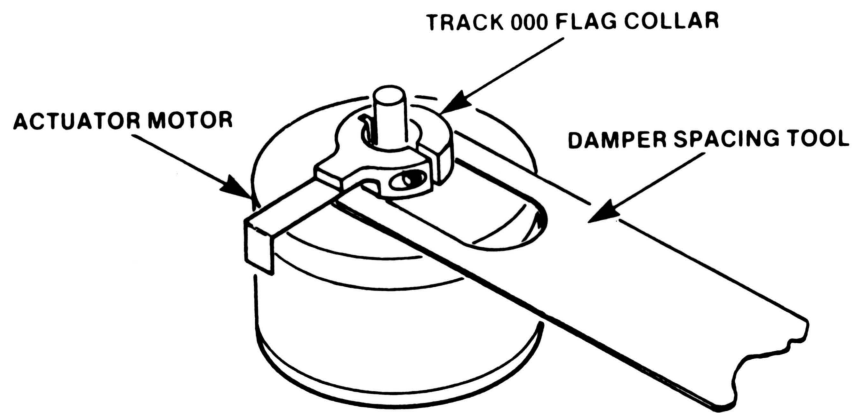

FIGURE 13. TRACK 000 FLAG ADJUSTMENT
- B. Locate the damper spacing tool (P/N 60548) between the top of the actuator motor and the bottom of the Track 000 flag collar (ref. Fig. 13).